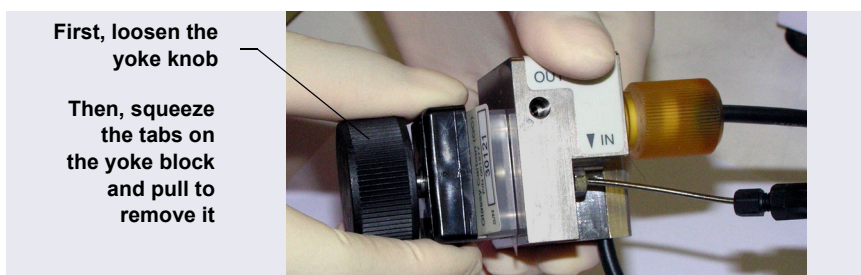

Figure 10-60. Disassembling the ED Cell
2. Loosen the yoke knob on the yoke block by unscrewing it two to three turns (see Figure 10-60).
3. Squeeze the tabs on the sides of the yoke block, and then pull the block and knob off the working electrode (see Figure 10-60).